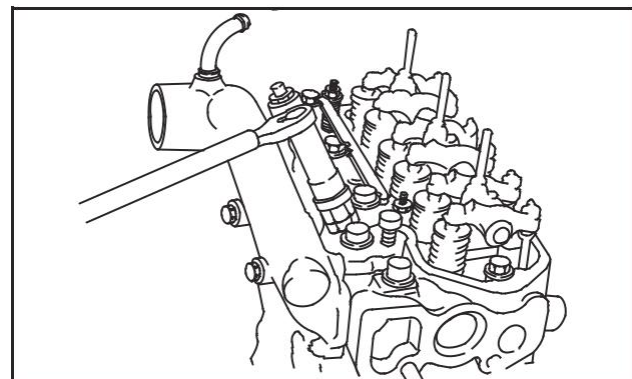

Fig. 37 – Install Glow Plugs And Injectors
6. Install Injectors, fuel lines and glow plugs, Fig. 37.